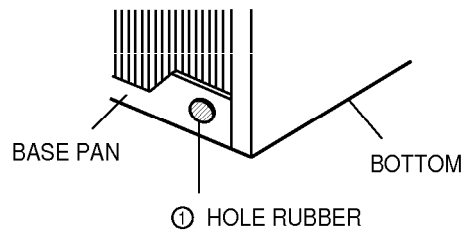

Figure 20
If the air conditioner is used in hot and a high humidity zone, exchange the ① HOLE RUBBER for the ② DRAIN PIPE. (See figure 20, figure 21.)